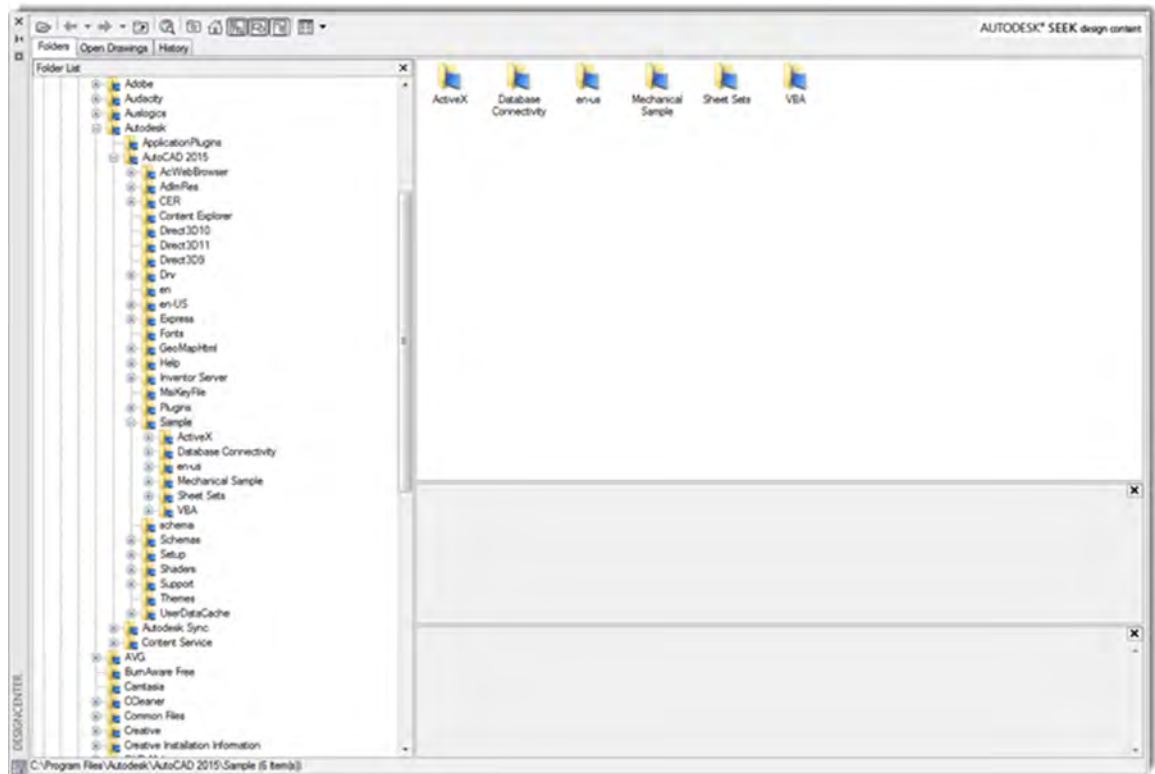

FIGURE 14.24
You can probably guess at one of the purposes of the Design Center (DC) as soon as you open it via the cascading menus Tools→Palettes→DesignCenter (also via typing in dc and pressing Enter, or Ctrl + 2). Be sure to adjust all the window panes for good visibility, as shown in Figure 14.24. The DC can also be docked to any side of the screen.